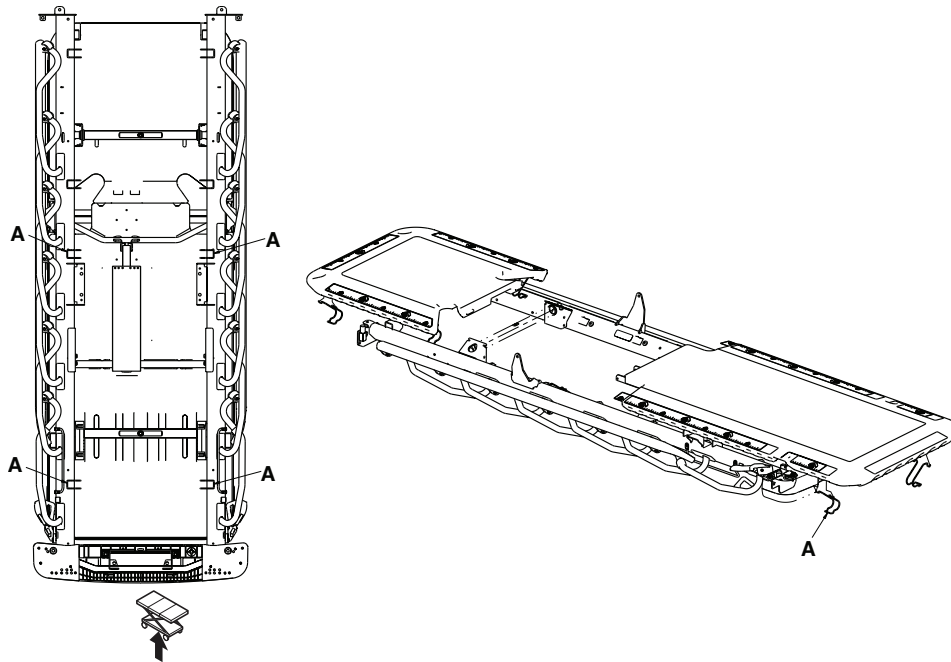

Figure 56 – X-ray panel replacement-foot end
- Unclip the four spring clips (A) (below the litter frame) that secure the foot end X-ray cassette panel to the litter frame (Figure 56).